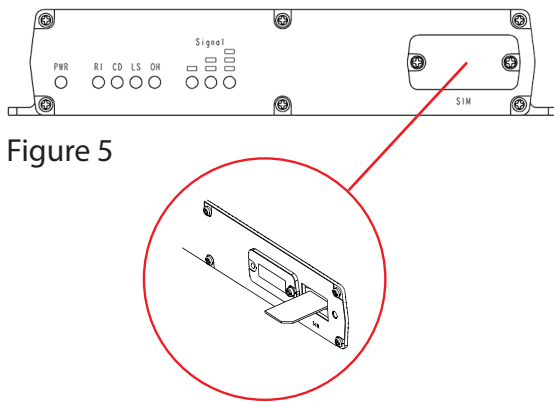

Figure 5
5.1.2 Use a small Phillips screwdriver to remove the SIM cover screw that is closest to the edge of the chassis. Loosen the second SIM screw slightly, rotate the cover 180 degrees, and re-tighten the second SIM screw slightly to keep the SIM compartment open (See **Figure 5**).